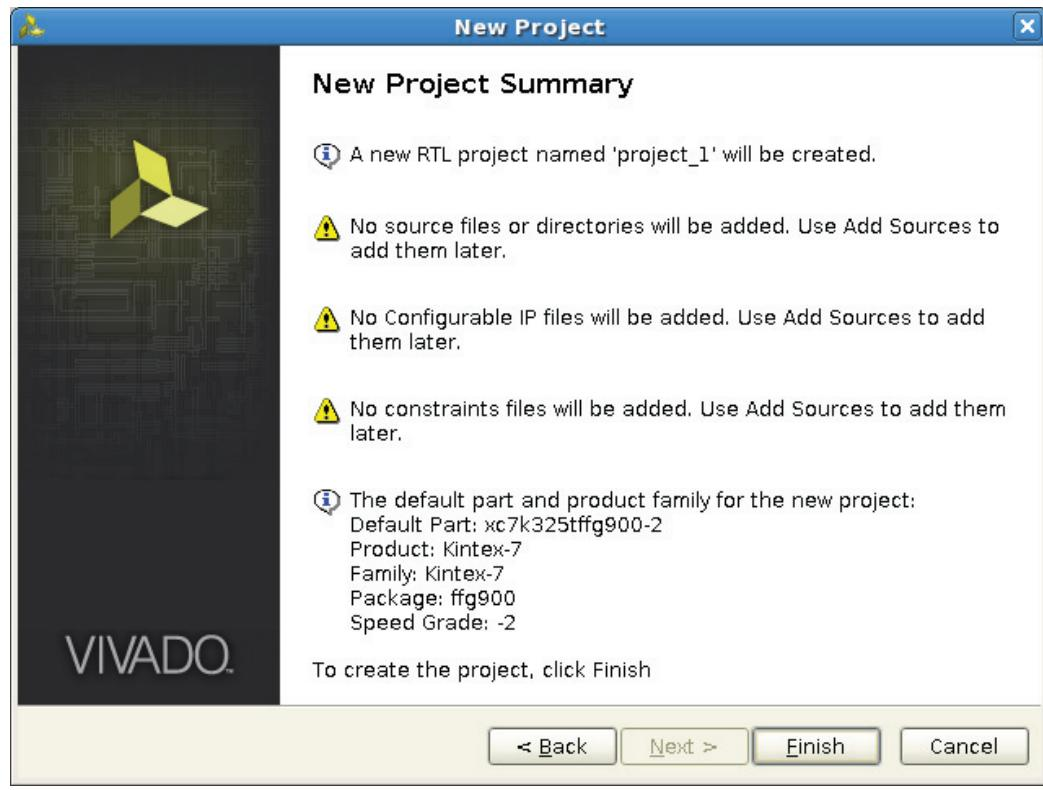

Figure 27: New Project Window (New Project Summary)
12. View the New Project Summary and click **Finish** (Figure 27).